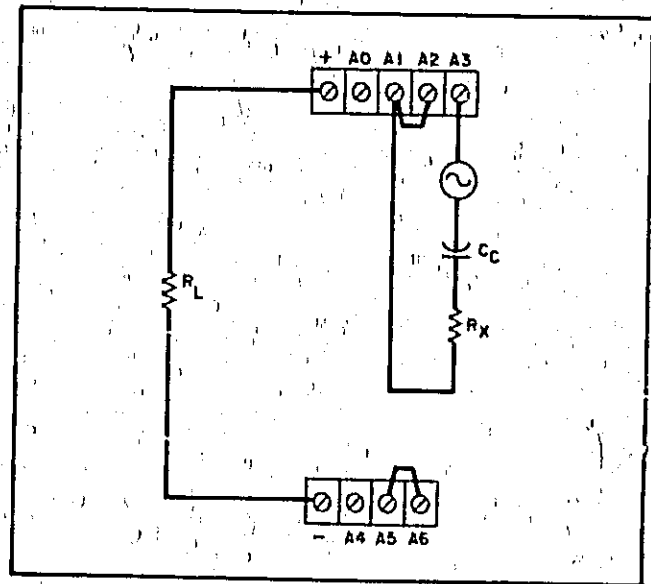

Figure 3-8. External AC Modulation
3-34 Figure 3-8 shows a method of superimposing an ac component on top of the adjustable dc output current of the supply. The dc current level is controlled in the normal fashion from the front panel, while the ac component of the output current is determined by the modulation percentage. The percentage of modulation is determined by the amplitude of the external voltage input and the value of the series resistance according to the following formula: $\% \text{ Modulation} = 100 \left[\frac{E_{\text{source}} (\text{p-p})}{R_X} \right]$ (in K_{Ω}). The programming voltage appearing across terminals A1 and A3 should be limited to 10V p-p and must not exceed 12 volts if damage to the instrument is to be avoided. Using the above formula, the user would require an external resistance of $2K_{\Omega}$ and a 4 volts peak-to-peak input signal from the external source to modulate a dc current level of 50mA by 100%. In this case, the output current would swing between 100mA and zero amperes. The output current should never be
- Connect external modulation source, coupling capacitor, and series resistor between terminals A1 and A3 as shown in Figure 3-8.